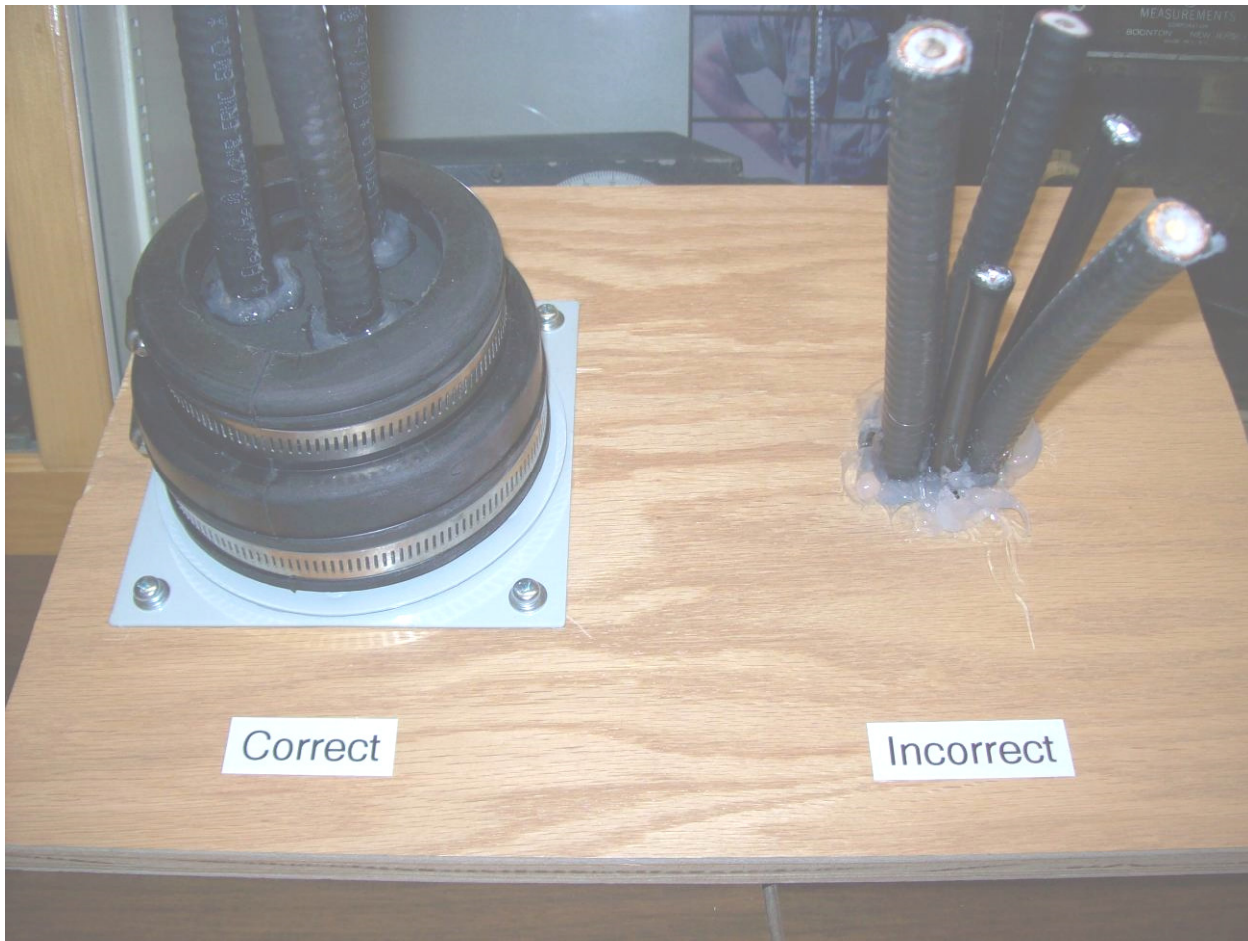

Figure 7 – Coax Entry Ports
- d. Coax shall enter the site using a standard entry port with coax entry boot designed for the type of coax being used. See Figure 7.
- e. Coax entry ports are required for the shelter. See Figure 7.